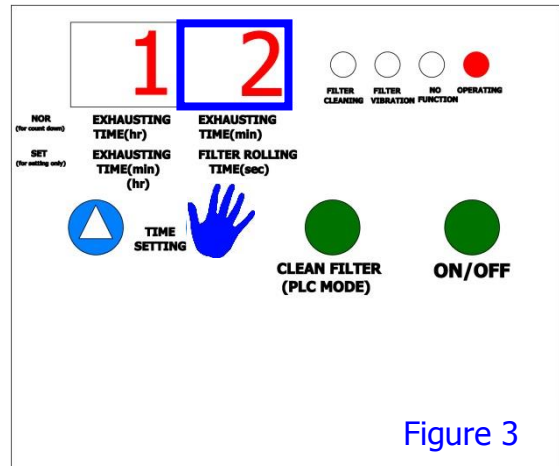

Figure 3
- When IC Panel in SET position, press ▲ (figure 3) to set filter bag cleaning time, from 2 secs to 10 secs (figure 4)